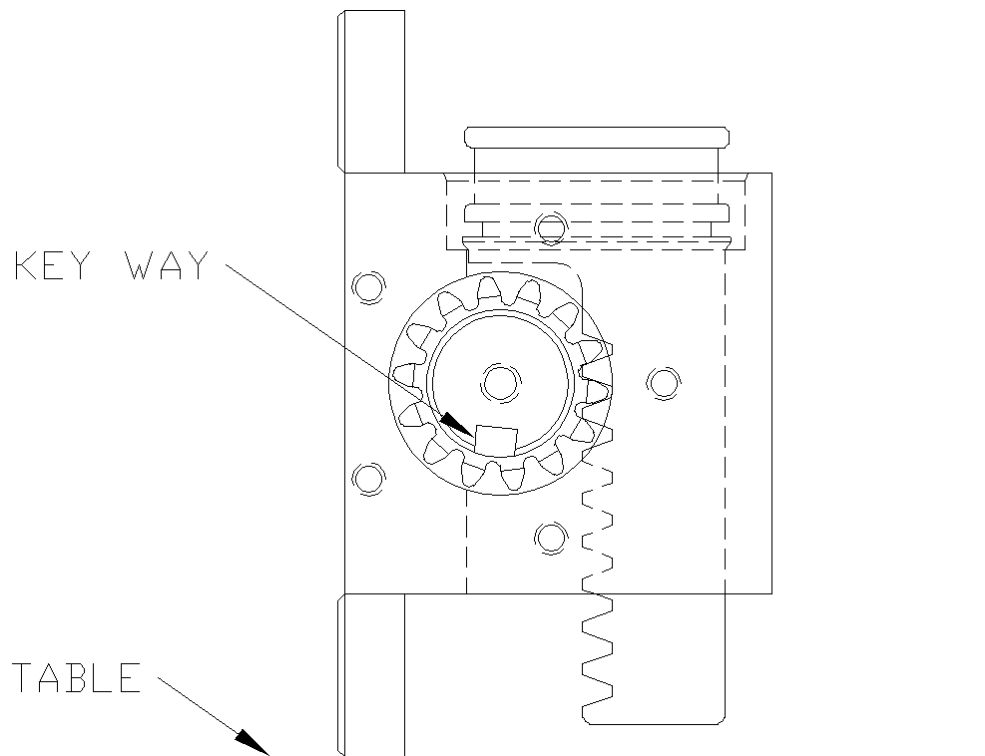

Figure C-6
6. Check the position of the racks in the pinion by making sure both racks seat against the actuator body at the same time and also when the racks are seated against the body, the key ways on the pinion shaft should be facing down toward the table and very slightly back toward the mounting flanges on the actuator body as shown in Figure C-6.